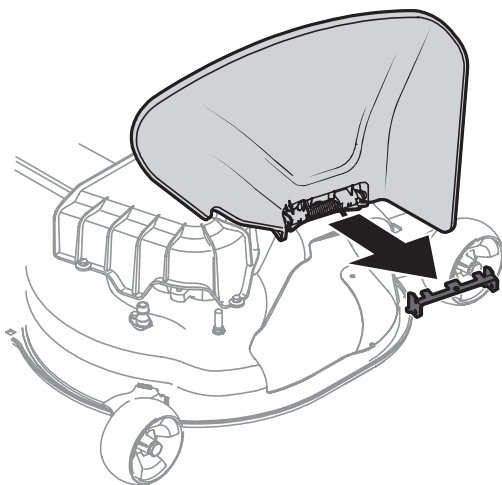

Figure 8
2. Lower the chute deflector and discard the shipping brace (Figure 8).